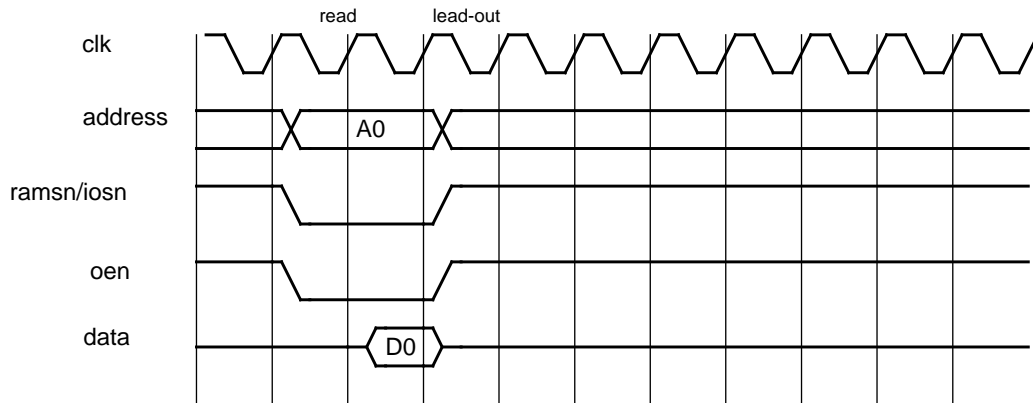
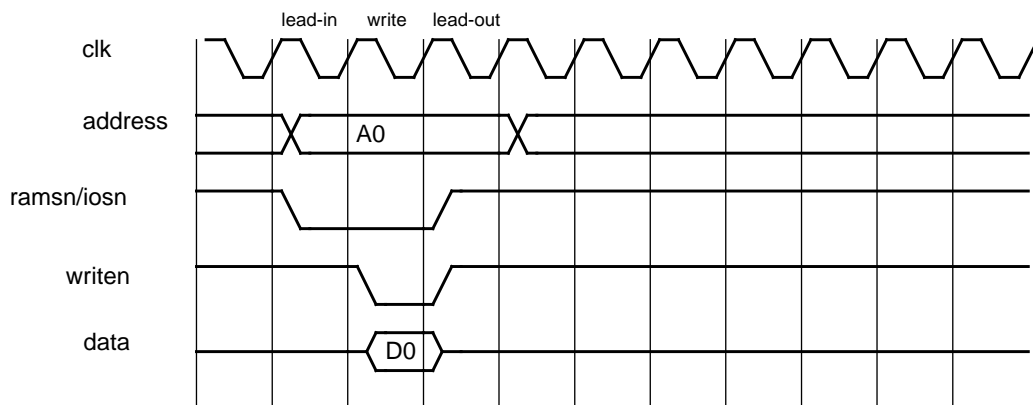

Figure 281. 32-bit PROM/IO read cycle
Figure 282. 32-bit PROM/IO write cycle
For the PROM and I/O operations, a number of waitstates can be inserted to increase the read and write cycle. The number of waitstates can be configured separately for the I/O and PROM address ranges, through a programmable register mapped into the APB address space. After a reset the waitstates for PROM area is set to its maximum (15). Figure 281 and figure 282 show timing diagrams for the PROM read and write accesses.
Read accesses to 32-bit PROM and I/O has the same timing, see figure 281
The write access for 32-bit PROM and I/O can be seen in figure 282